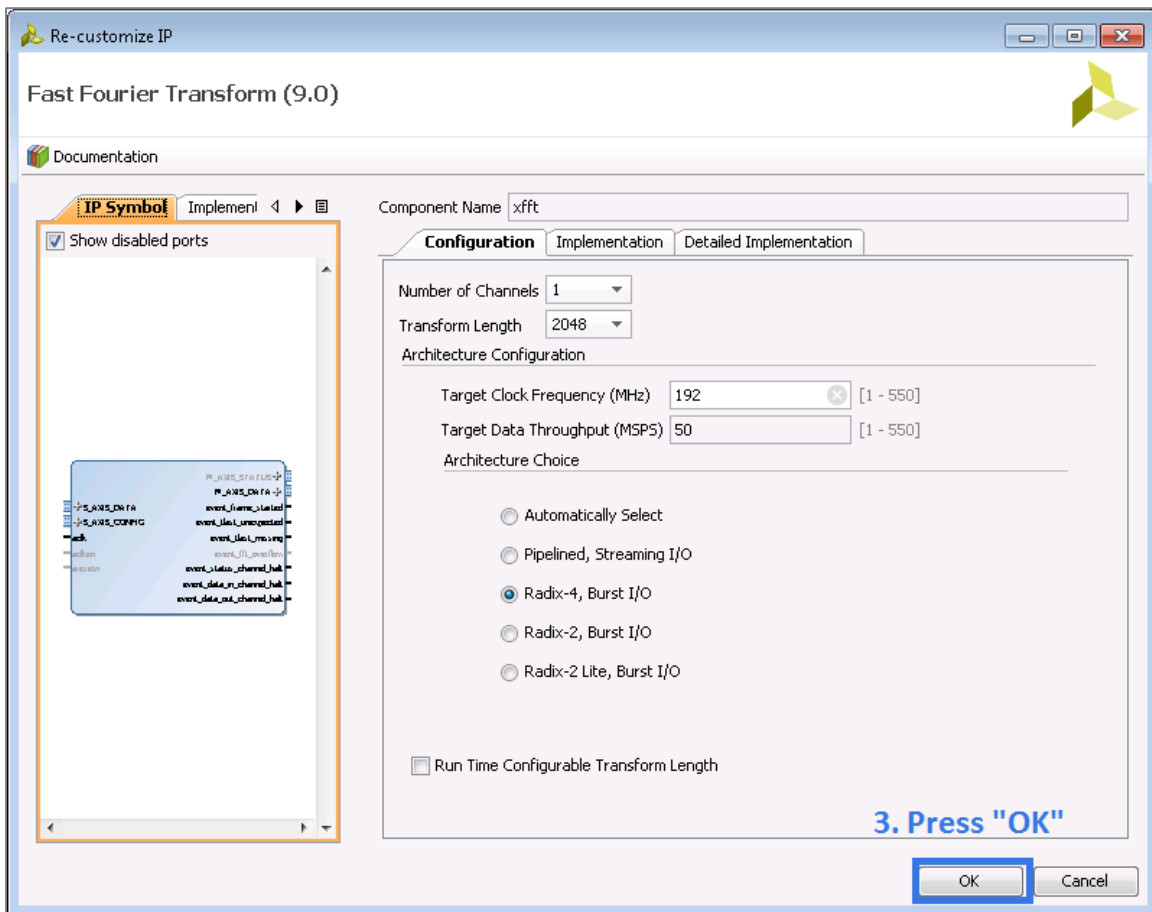

Figure 25 - How to reconfigure a Xilinx IP Core (2)
6. Inside the "Re-customize IP" dialog, leave the settings untouched and click **OK** as shown in Figure 25.